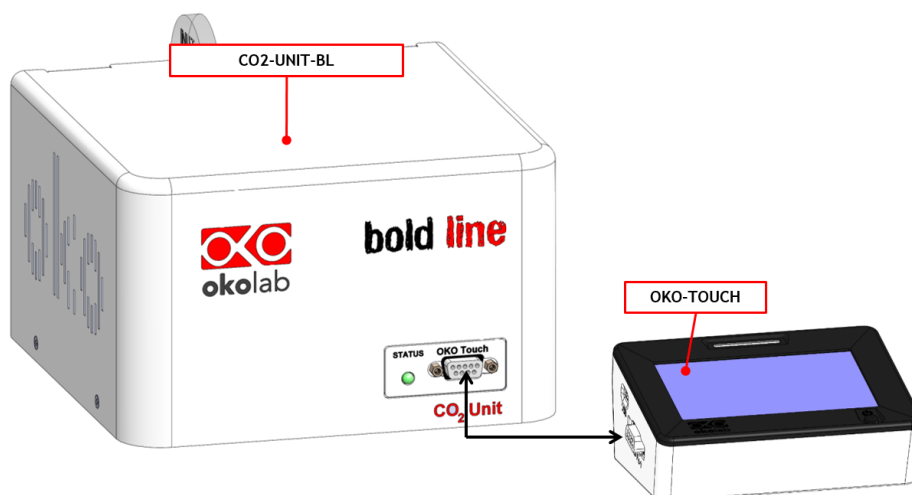

Figure 13. Oko Touch Connection
5. Connect the touch screen interface OKO-TOUCH to the CO₂ Controller with the RS232 serial cable as illustrated in Figure 13.